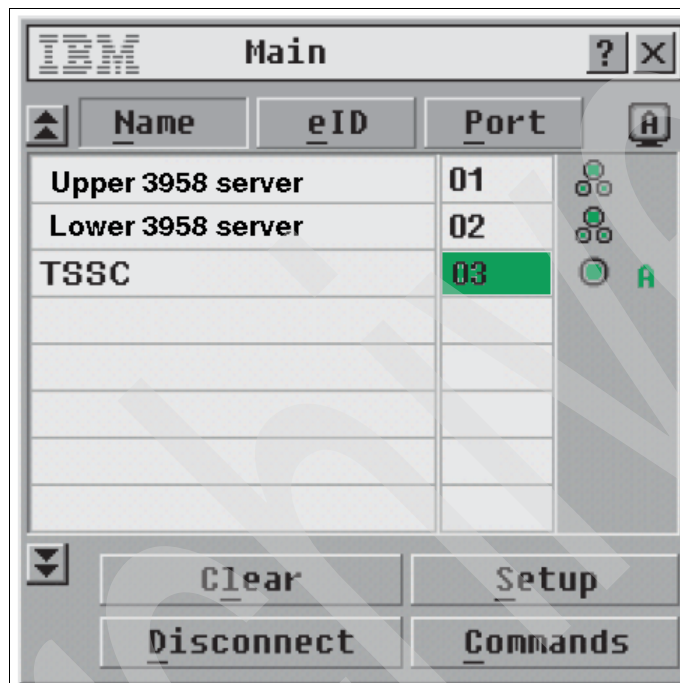

Figure 8-1 Main panel 3958 (TSSC selected)
1. On the TS3000 System Console (TSSC) keyboard, press **PrtSc** to launch the KVM switch's Main panel. The Main panel displays. You can select TSSC with the Up or Down arrow on the keyboard; see Figure 8-1.